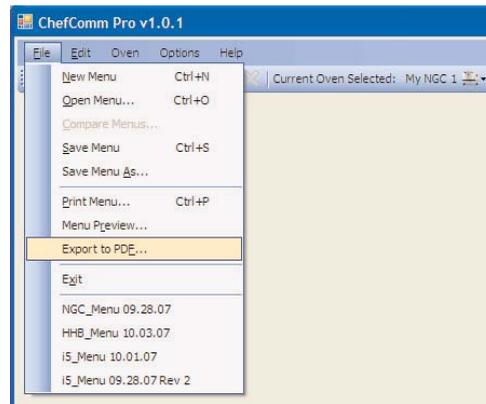

Figure 28: Create a PDF File
2. Select File > Export to PDF... (Figure 28).